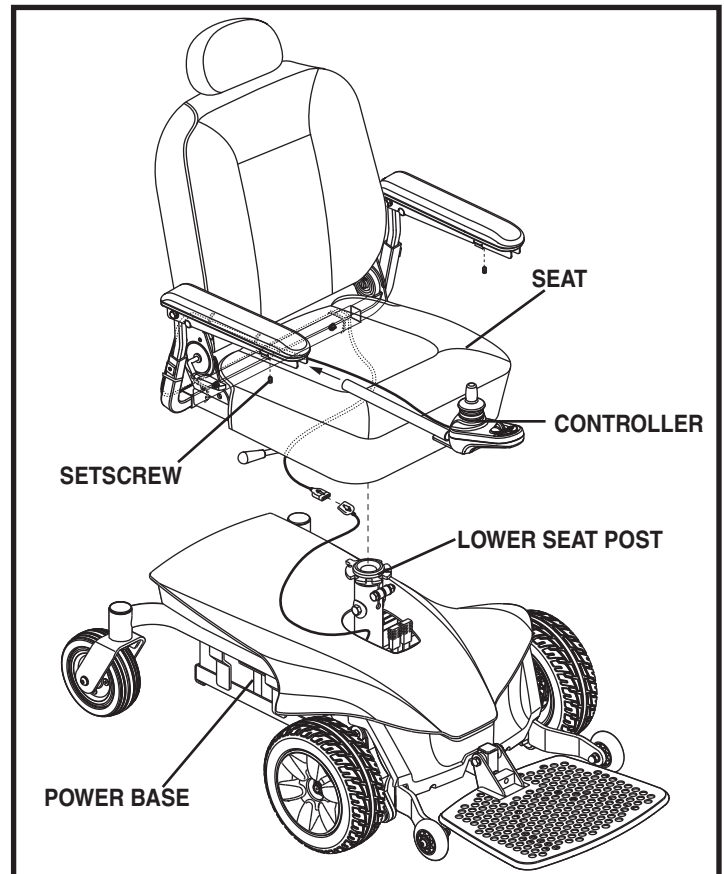

Figure 6. Seat and Controller Assembly
1. Adjust the upper seat post to the desired position and insert the bolt through the seat post and secure with the nut. **See figure 6.**
2. Slide the seat down onto the upper seat post. **See figure 6.**
3. Install the controller into one of the armrests. Tighten the setscrew with the supplied hex key. **See figure 6.**
4. Lift the armrest straight up, then route the controller harness and secure with wire ties as shown in **figures 6 and 7.**